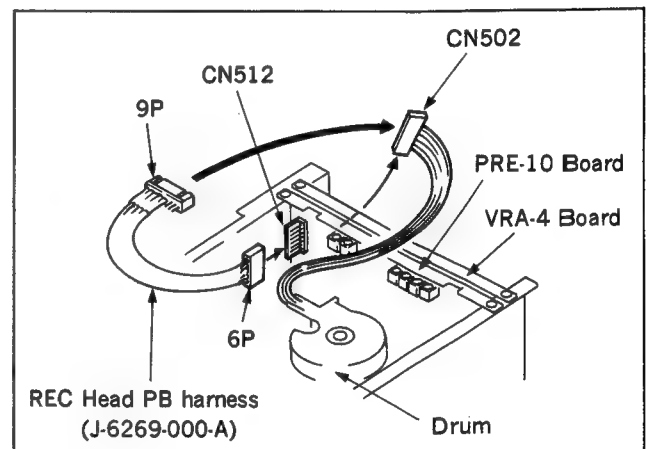

Fig. 6-9-1 Connection of REC head PB harness
2. Disconnect a connector CN502 on VRA-4 board, and connect 9-pin side of the REC head PB harness (J-6269-000-A) to this position. Connect the 6-pin connector on the other end of the harness to CN512 on PRE-10 board (refer to Fig. 6-9-1).